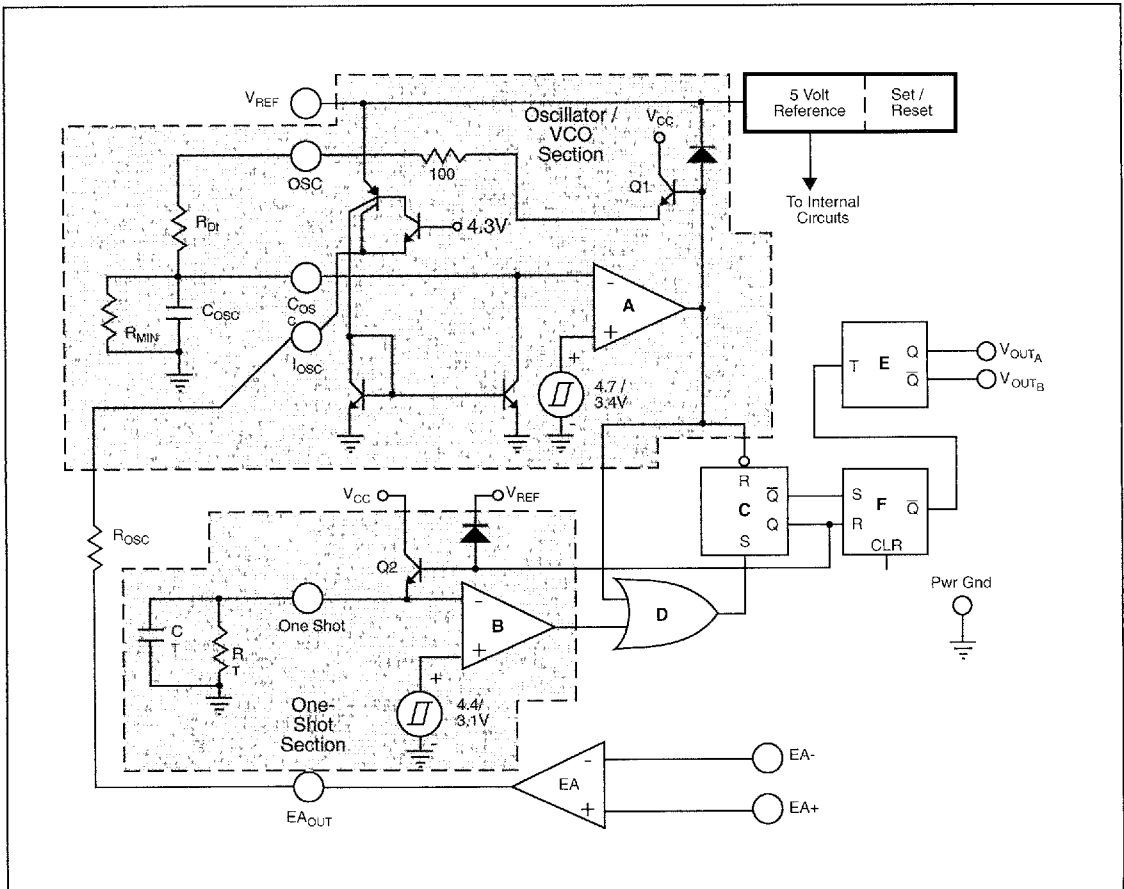

Figure 2: VCO and One Shot section of the CS-361.
The circuit is principally an oscillator that drives a steering flip-flop (Figure 2). The flip-flop passes the pulses alternately to each of the two output drivers. A programmable One-Shot (B) is used to set the OFF-TIME. Output voltage is sensed at the input of the error amplifier. The output of the error amplifier is connected to the internal current mirror through the  $R_{OSC}$  and determines the discharge current of  $C_{OSC}$  and hence the frequency and ON-TIME of the outputs. Figure 2 shows a simplified diagram of the VCO and